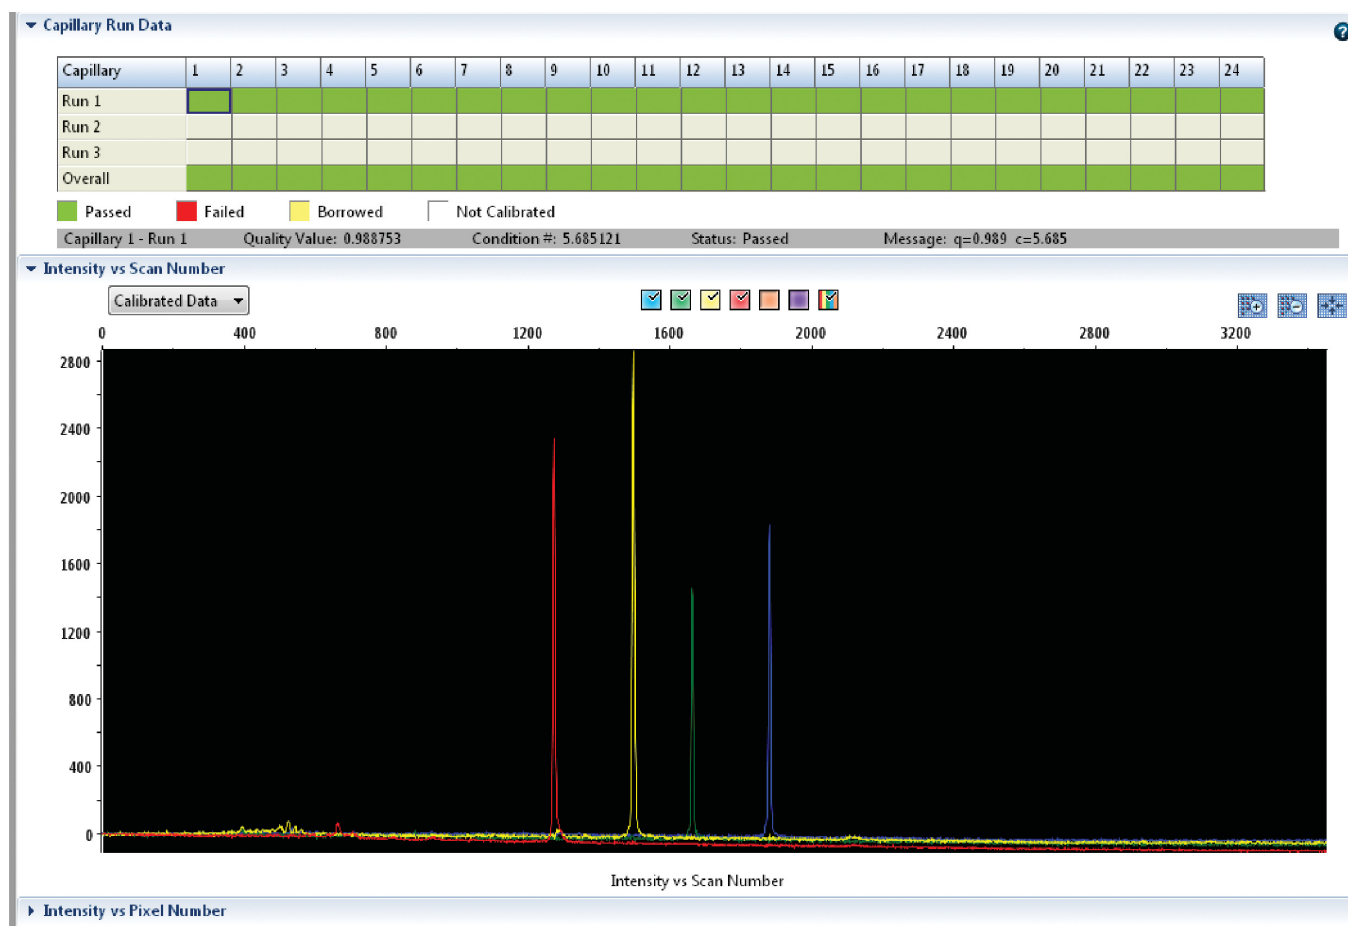

Figure 4. The Capillary Run Data display.
- If fewer than the recommended number of capillaries pass, the spectral calibration run may be repeated automatically up to three times. Upon completion of the spectral calibration, check the quality of the spectral in the Capillary Run Data display (Figure 4), and choose either “Accept” or “Reject” (not shown).